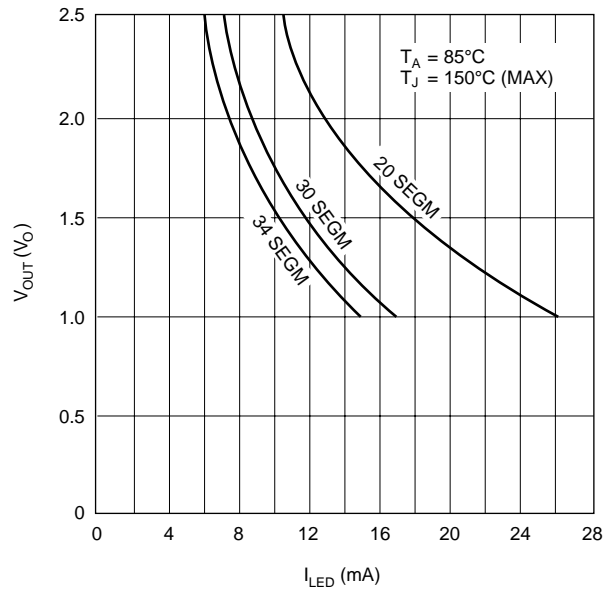

Figure 8.
**Note 4:**  $V_{OUT}$  should be regulated by the user. See Figures 8 and 9 for allowable  $V_{OUT}$  vs.  $I_{OUT}$  operation.